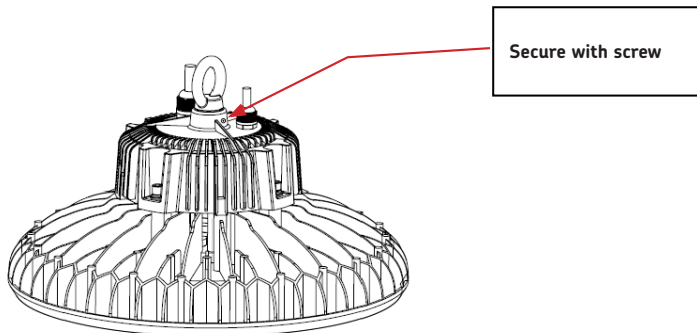

Fig. 1
- To suspend the fitting, screw the mounting hoop into the top of the luminaire and secure with the screw provided (see Fig. 1)